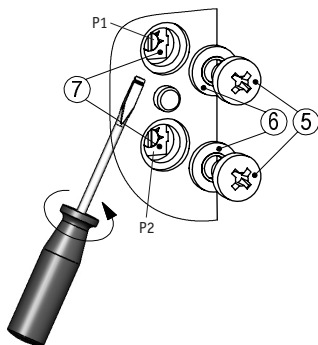

Fig. 5: Parameter setting
- Due to the type of protection, only the crosshead screws may be loosened (see fig. 5).
- With the screws (5) of the cover loosened the type of protection of AG03 is no longer guaranteed.
- Set the parameters on the trimming potentiometers (7) using a 2mm slot screwdriver.
- When remounting the screws (5) take care that the seals (6) are seated correctly!